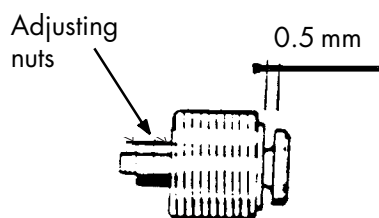

Fig. 16
- If it is necessary to adjust its setting, refer to Fig. 16.